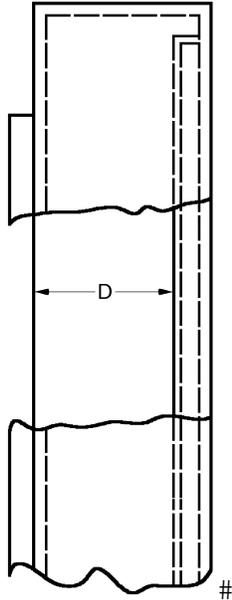
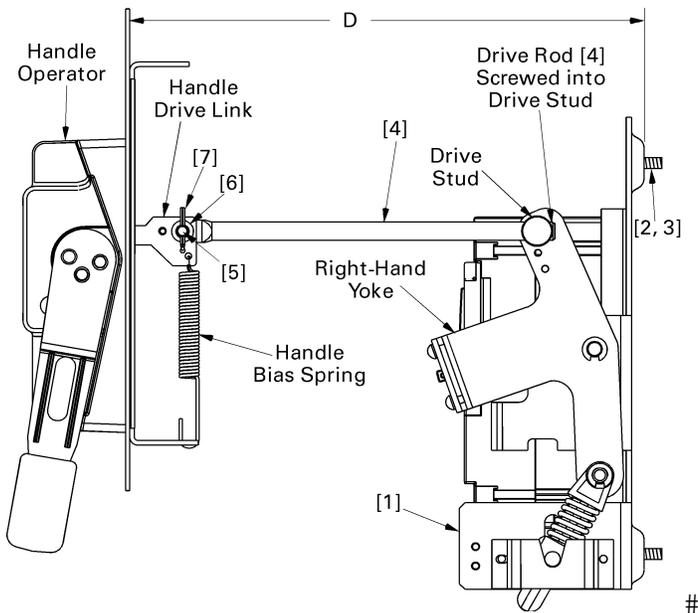

Figure 5. Side view of enclosure, showing dimension D.
Figure 6. Installing the drive rod.
6. As shown in Figure 5 and Figure 6, measure the dimension D, which is the distance from the handle-mounting surface to the operating mechanism mounting surface. Cut the drive rod [4] overall length 2 1/2" shorter than the D dimension. The minimum D distance is 6.5" (165 mm).
7. Screw the drive rod [4] into the drive stud on the operating mechanism until it is flush with the opposite side of the stud (approximately 10 full turns), as illustrated in Figure 6.
9. Slide the drive pin [5] through the holes in the handle drive link and the end of the drive rod [4]. Place a flat washer [6] over the end of the pin, then slide the cotter pin [7] through the hole in the drive pin [5], as illustrated in Figure 6. Do not bend the cotter pin at this time, since slight movement of the handle may be necessary to align the pin and hole.
9. Attach the handle bias spring, illustrated in Figure 6, included with the STDA handle mechanism kit.